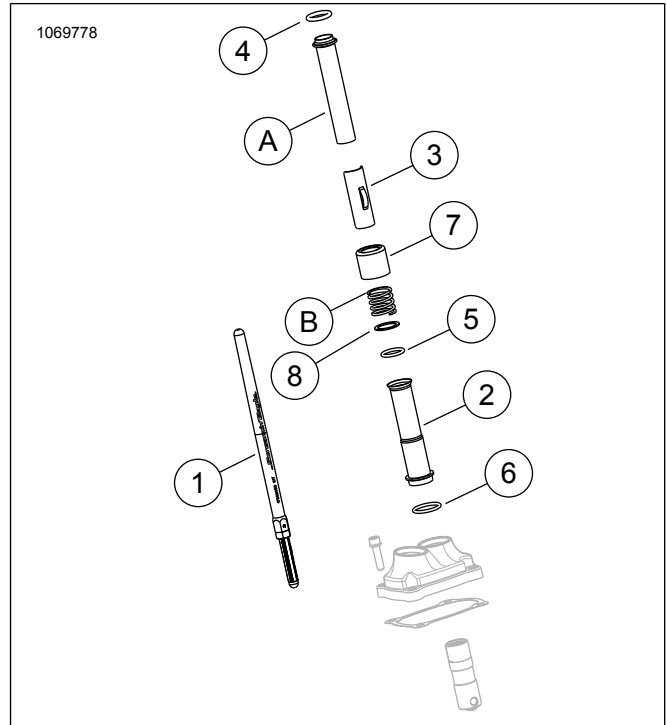
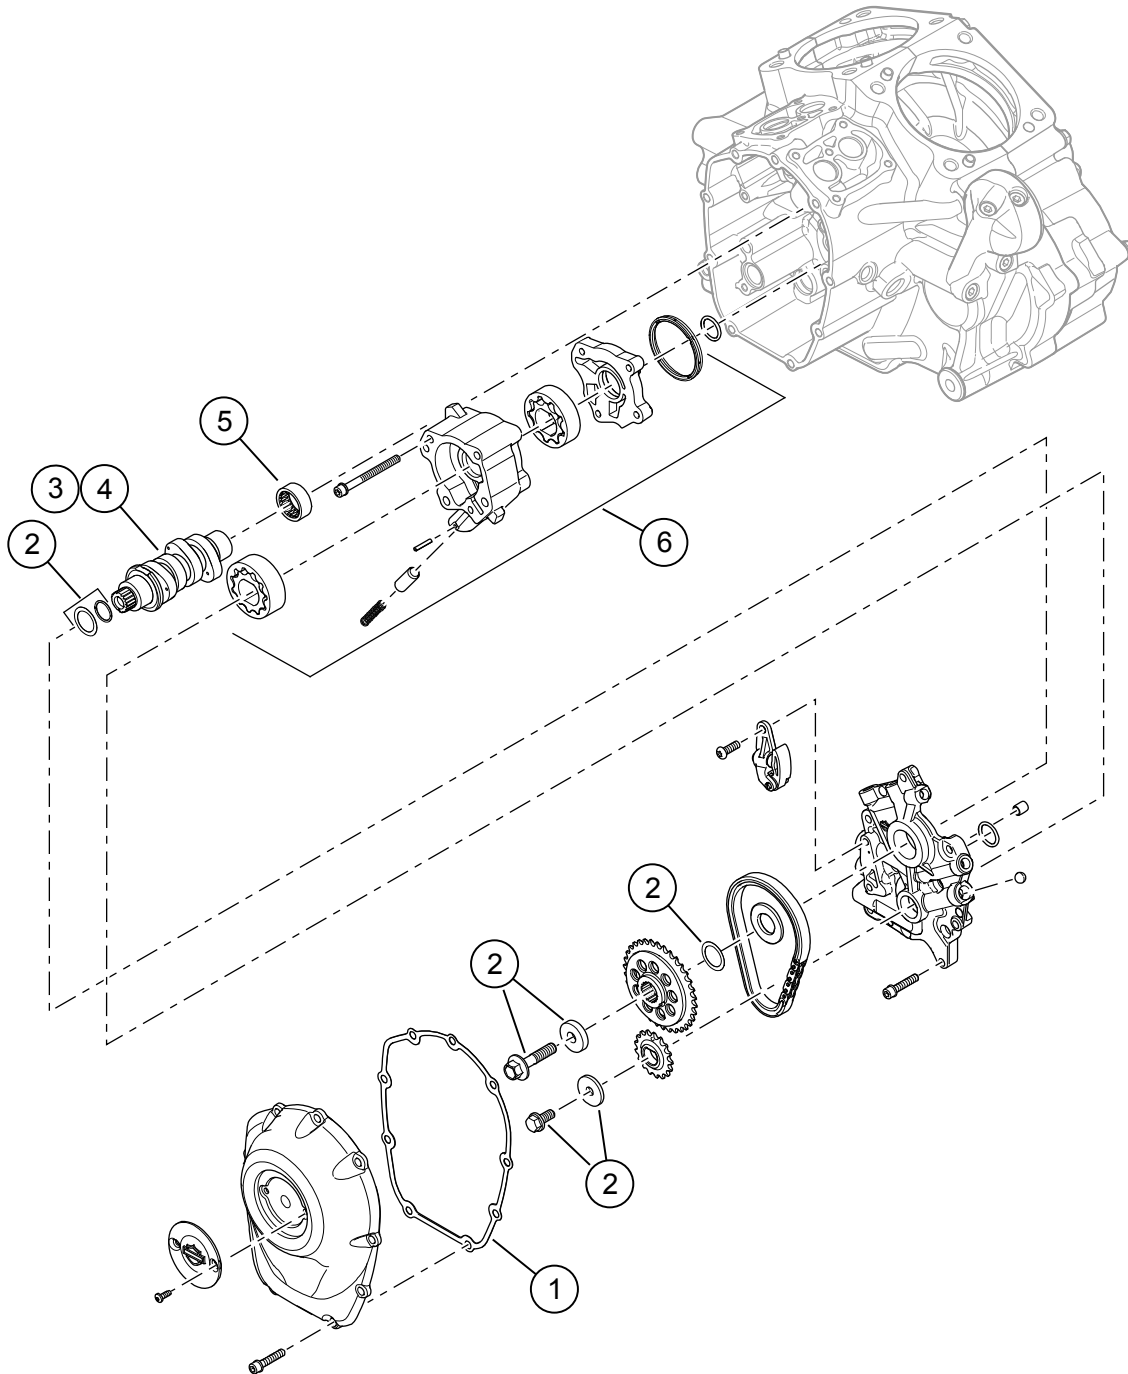

Figure 3. Service Parts
Figure 4. Service Parts: Screamin' Eagle Milwaukee-eight Stage 2 Kit
See Figure 3 to Figure 4, and Table 2 to Table 3.
1. Figure 4 Install oil pump. Refer to ENGINE in service manual.